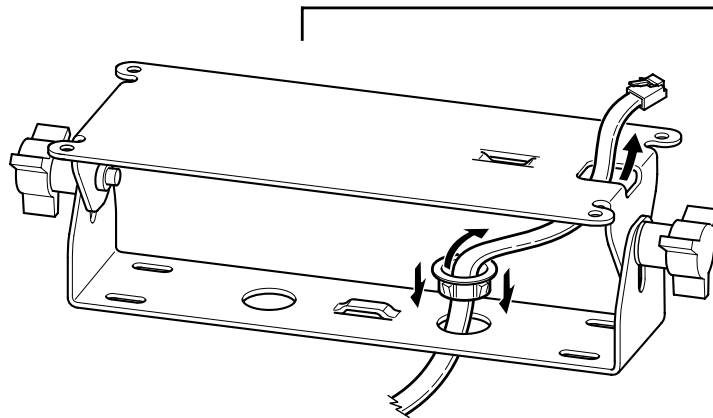

FIGURE 21:
40. When mounting the Remote Head using the brackets, first plug in and thread the cable through the bracket assembly as shown in (Figure. 21).
41. Plug the CA Cable into the Remote Head and secure the panel with (4) machine screws and nuts to the front of the bracket.